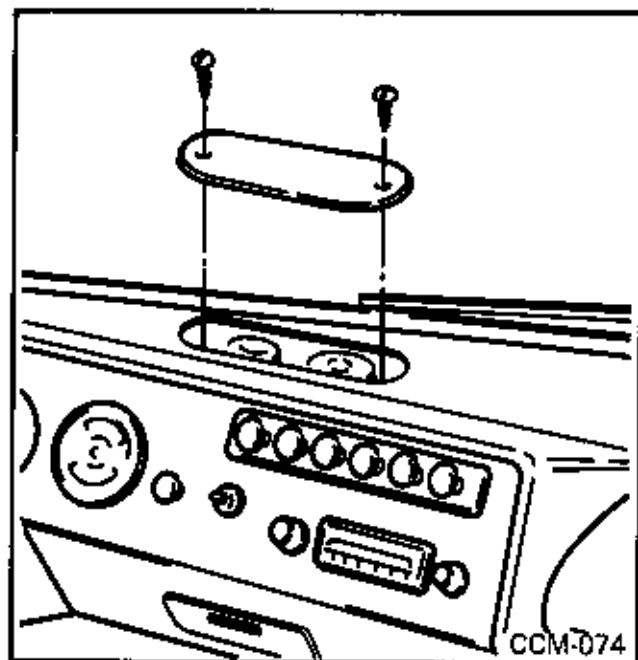

Fig. 92 Clutch Master Cylinder
1. Check fluid level in clutch master cylinder and fill (to within 1/4" of top) if necessary. (Fig. 92)